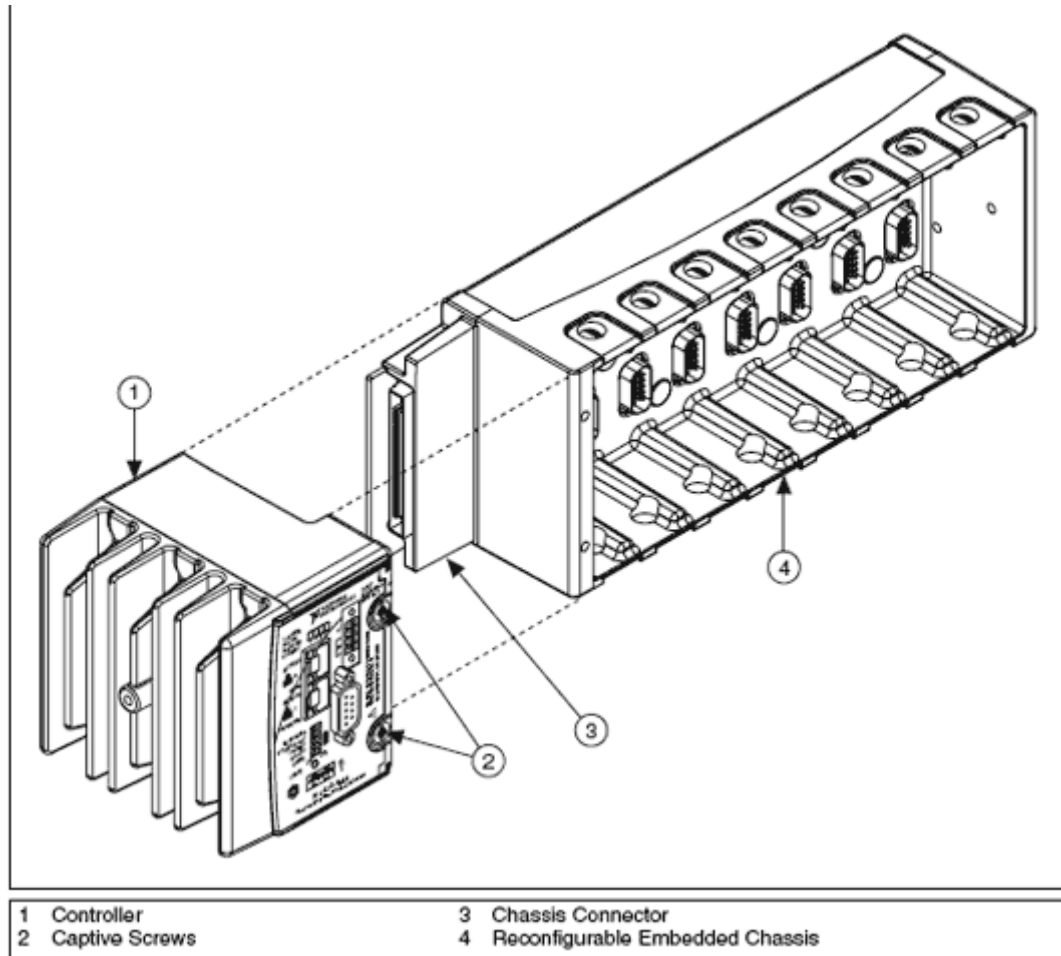

Figure 6. Connecting CompactRIO Chassis and Controller
2. Align the controller and the chassis as shown in Figure 6.